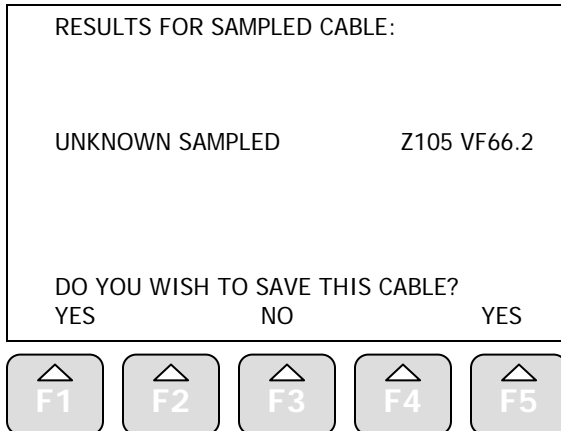

Figure 1
Step 3 – Press ENTER again to go to the Length Entry screen. First enter the sample's physical length in feet or meters (meters enters in nnnn.nnn format to include mm) and press ENTER. Then, if prompted to do so, enter the "inches" and press ENTER. The TDR now calculates the VF. The results screen will appear as shown in Figure 1 with both the Impedance and VF displayed.